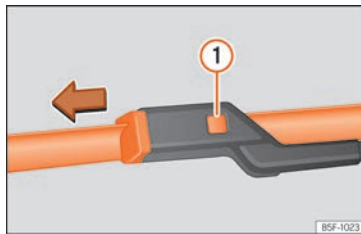

Fig. 41 Changing the windscreen wiper blades
- Press and hold release button » Fig. 41 ❶ and pull gently on the wiper blade in the direction of the arrow.